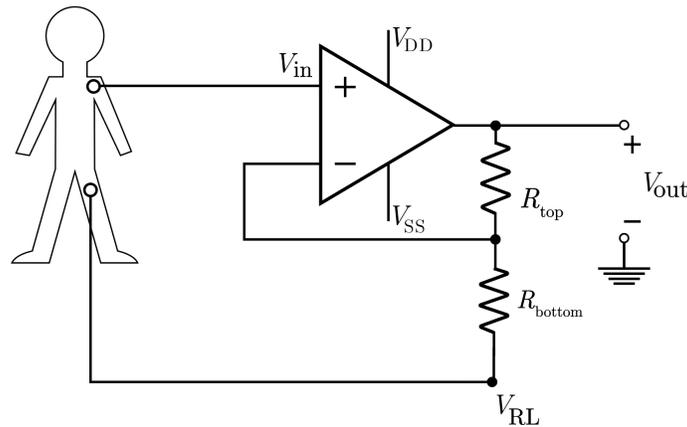

Figure 6: Alternative op-amp ECG topology.
- (c) (4 points) Another configuration often used by healthcare professionals is to attach one electrode to the heart (recording its electrical signal, V_{in}) and another electrode to the right leg to serve as a reference voltage, as shown in Figure 6. **What is the output voltage, V_{out} , as a function of V_{in} , V_{RL} , R_{bottom} , and R_{top} ? Clearly show your work.**